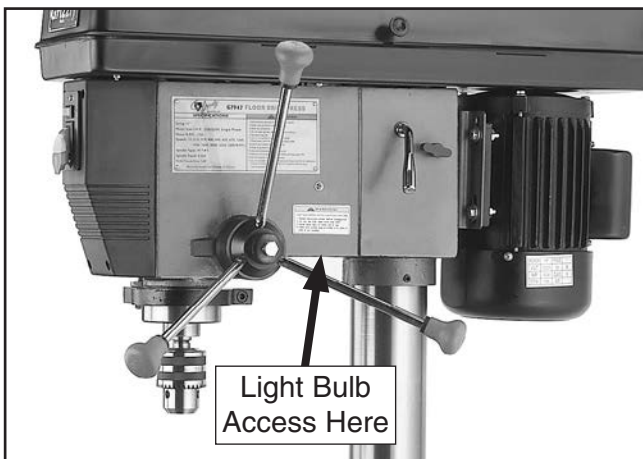

Figure 24. Light bulb access location.
28. Install a 60W or smaller light bulb in location shown in **Figure 24**.